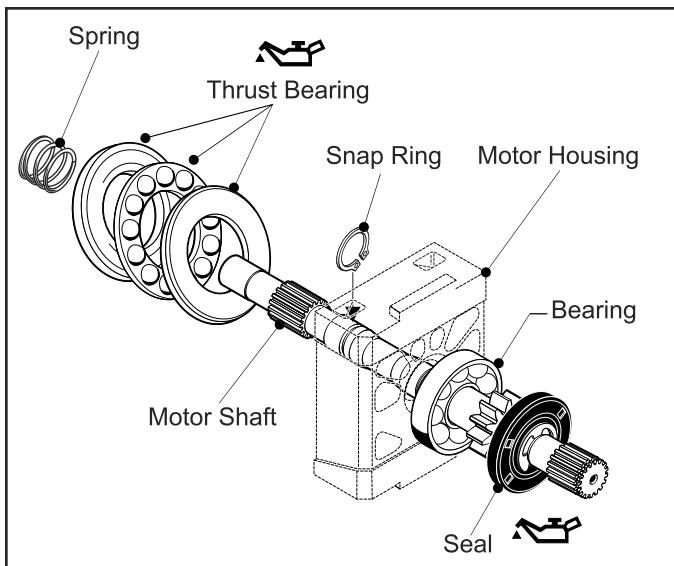

Fig. 26, Motor Shaft – Housing Assembly
◆ Comprising of (2) Thrust Plates and (1) Thrust Bearing, the Thrust Bearing Group should be oiled and placed into the Motor Housing. Starting with the "thin" Thrust Plate followed by the Thrust Bearing and finally, the "thick" Thrust Plate. (Fig. 26)
7. Install Motor Shaft Assembly through hole in Motor Housing. (Fig. 26)
8. Install Snap Ring and Spring onto Motor Shaft. (Fig. 26)